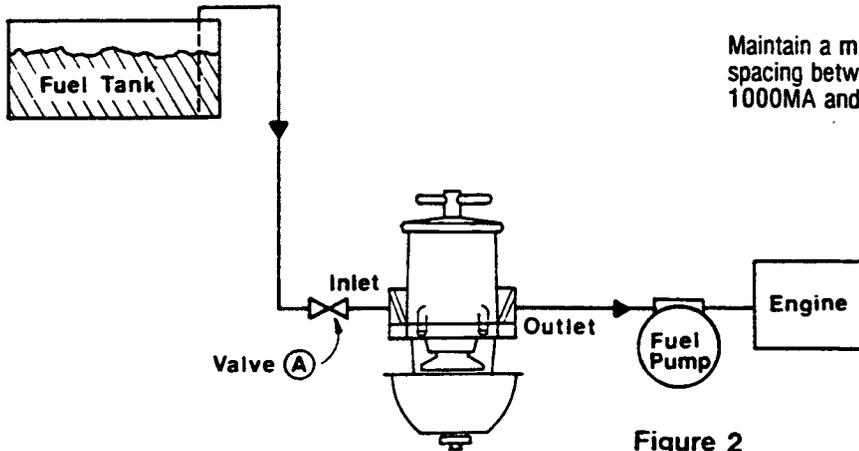

Figure 2
pump. (See Figure 2.)
4. On a 500MA, 900MA, 1000MA, 73/1000 MA or 77/1000MA unit, a valve must be installed on the *inlet* side of the filter system. This valve is necessary when changing elements. (See Figure 2 and Accessories Section.)
Turn valve "A" off. (See Figure 2.) Remove lid and T-handle. Inspect gaskets. Replace only if necessary with Racor Marine Gaskets.
11619 Manual Valve-1" NPT (See Fig. 2)